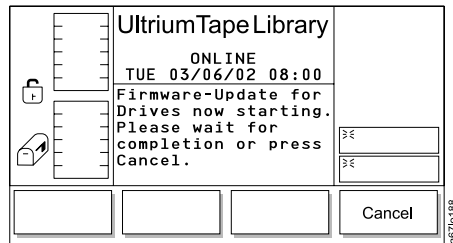

Figure 374. Firmware Update Starting Dialog
- Press the button below the **OK** softkey. The Firmware Update Starting Dialog displays (see Figure 374) and the update begins.